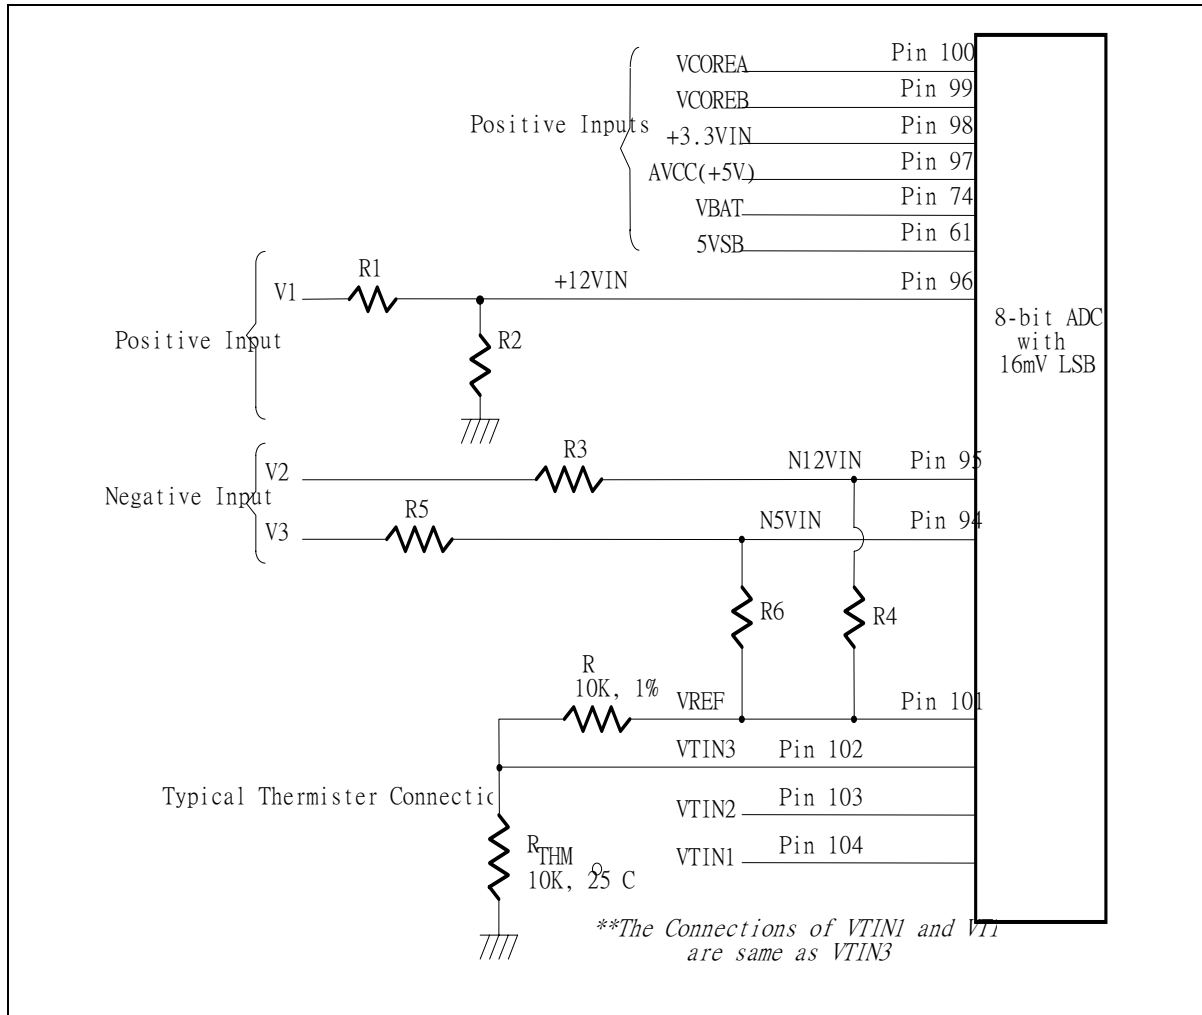

Figure. 9.2
The maximum input voltage of the analog pin is 4.096V because the 8-bit ADC has a 16mV LSB. Really, the application of the PC monitoring would most often be connected to power suppliers. The CPU V-core voltage, +3.3V, battery and 5VSB voltage can directly connected to these analog inputs. The +12V, -12V and -5V voltage inputs should be reduced a factor with external resistors so as to obtain the input range. As Figure 9.2 shows.
The negative voltage should be connected two series resistors and a positive voltage VREF (is equal to 3.6V). In the Figure 9.2, the voltage V2 and V3 are two negative voltage which they are -12V and -5V respectively. The voltage V2 is connected to two serial resistors then is connected to another terminal VREF which is positive voltage. So as that the voltage node N12VIN can be obtain a posedge voltage if the scales of the two serial resirtors are carefully selected. It is recommended from Winbond that the scale of two serial resistors are R3=232K ohms and R4=56K ohm. The input voltage of node N12VIN can be calculated by following equation.
The W83697HF can connect three thermistors to measure three different envirmnt temperature. The specification of thermistor should be considered to (1) β value is 3435K, (2) resistor value is 10K ohms at 25°C. In the Figure 9.2, the themistor is connected by a serial resistor with 10K Ohms, then connect to VREF (Pin 101).